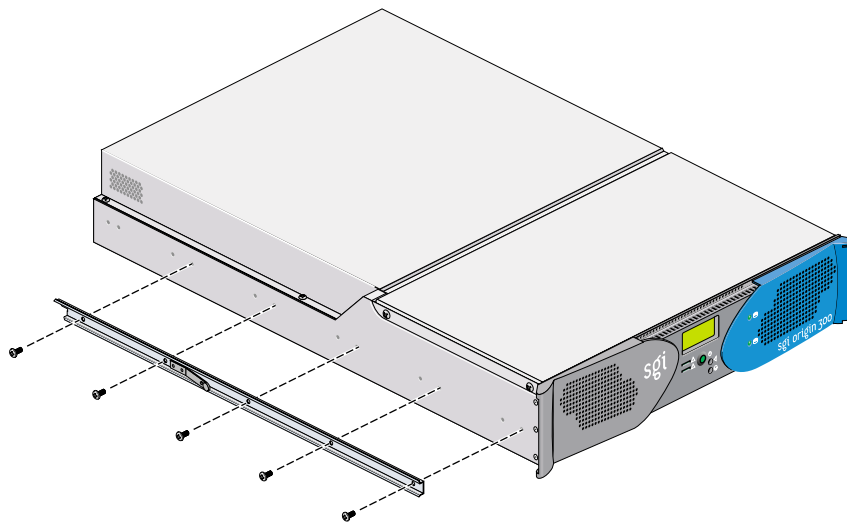

Figure 3-7 Removing the Chassis Rail
4. Remove the five 10-24 x 1/4 in. screws that attach the rail to the chassis (refer to Figure 3-7).